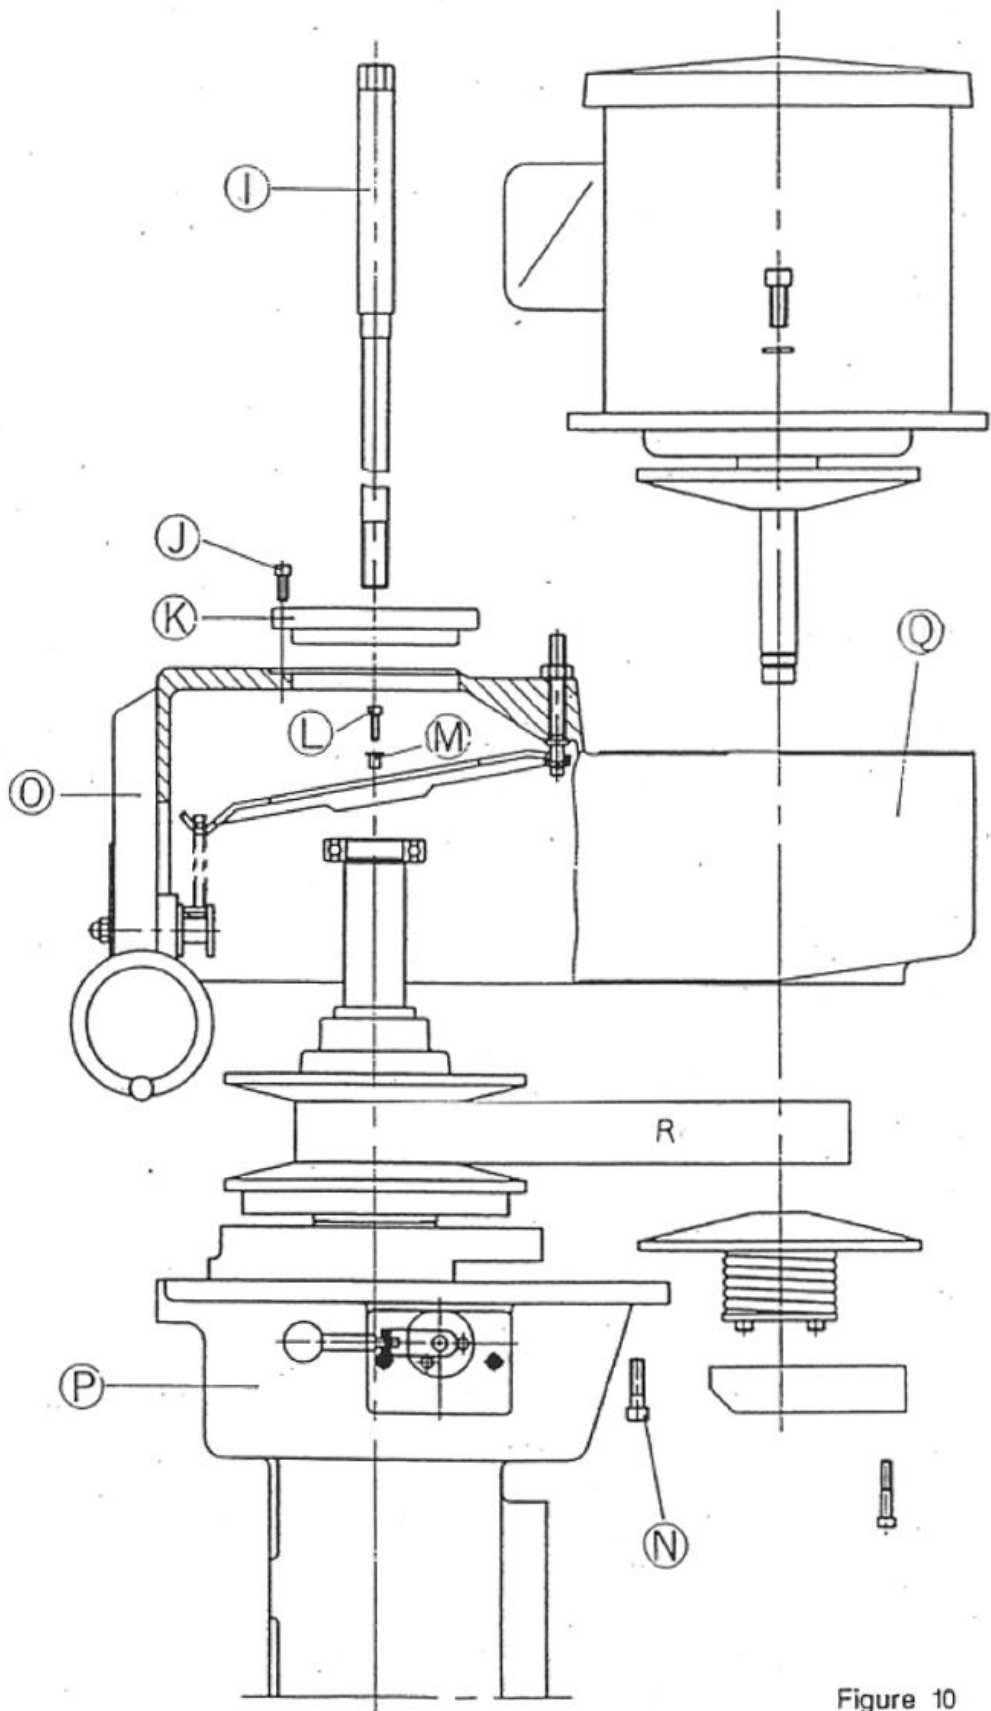

Figure 10
2. **Replacement of speed change belt(R) (Figure 10):**
- b. Pull out drawbar (1).
- c. Take off three concave hexagonal bolts (1) and use two of them to push up the bearing cover (K).
- d. Take down the two concave hexagonal bolts (L) setting the pressboards from the top and take out the bolt housing (M).
- e. Take off the six concave hexagonal bolts (N).
- f. Use a soft mallet to hit the belt housing (Q) lightly upward so as to disengage it from the gear housing (P).